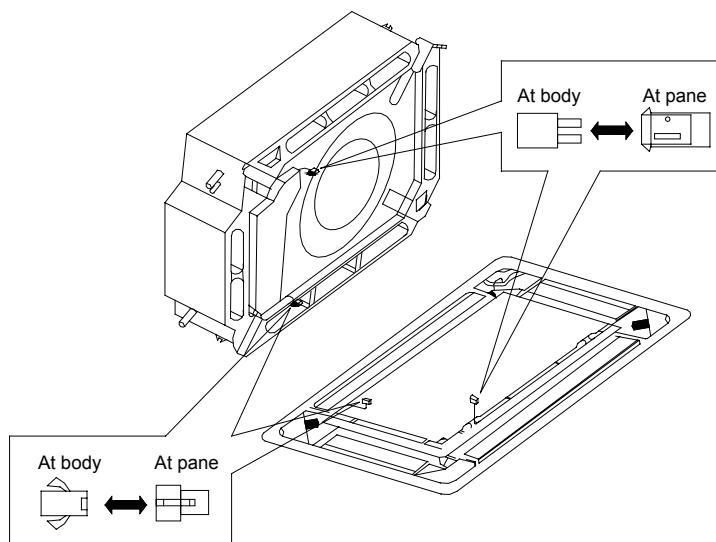

Fig. 16
- ② . Wiring of the decoration panel (Fig. 16)